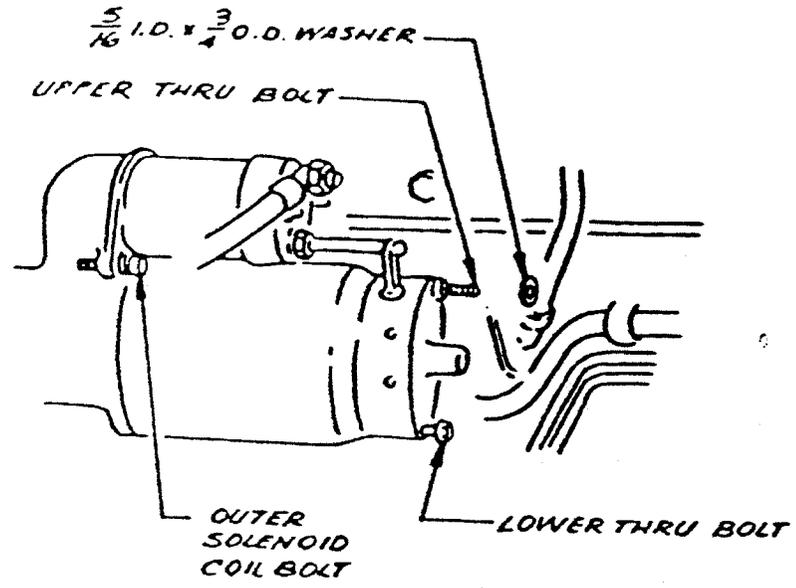

FIG. 10
20. Tighten the lower starter motor thru bolt against the heat shield. Place a 5/16" I.D. x 3/4" O.D. flat washer and a 1/4-20 nylock nut on the stud end of the upper thru bolt, and tighten. Install a 1/4-20 nylock nut on the exposed end of the outer solenoid coil bolt and tighten. Make sure heat shield will not short against any wiring. See fig.10.